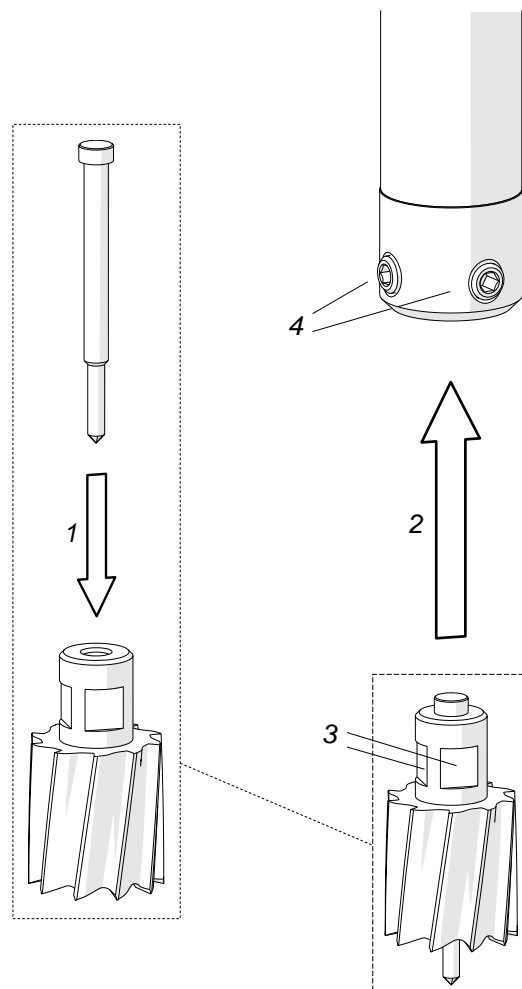

Fig. 3. Installing the annular cutter
Install the arbor as described before, wear protective gloves, and then insert the proper pilot pin into the annular cutter (1, Fig. 3). Use a clean and dry cloth to wipe the arbor and cutter. Next, place the cutter into the arbor (2) in such a way to align the flats 3 with the set screws 4, and then use the 5 mm hex wrench to tighten both set screws.